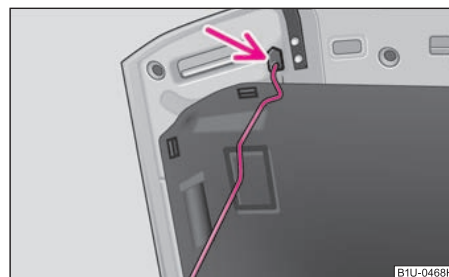

Fig. 150 Securing the bonnet with the bonnet support
- Take the bonnet support out of its holder and set it in the opening designed for it → page 159, fig. 150.